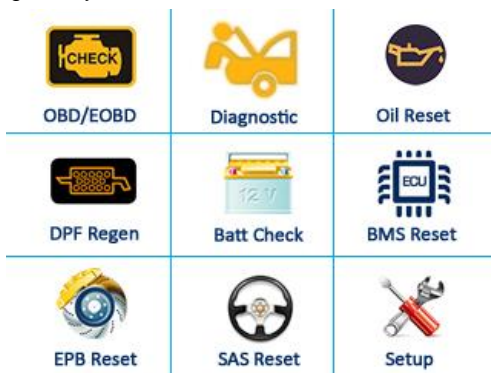

Figure 4-1
5. After finishing, the system will enter the main menu, as shown in Figure 4-1.
- 5) Turn on the scan tool. Use the **UP/DOWN** scroll button to select OBDII/EOBD from the Main Screen (Figure 4.1).